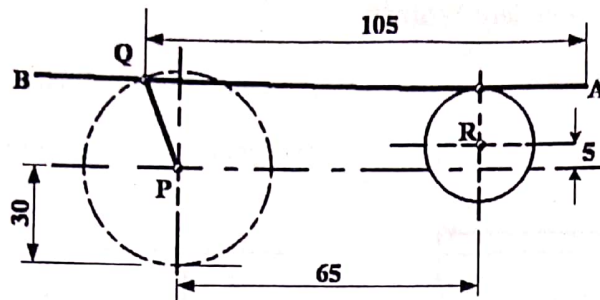

Figure 2
2. In the mechanism shown in Figure 2, crank PQ rotates about P and the rod AB is connected to the crank PQ at Q. The rod AB slides in the same vertical plane on the curved surface of the solid cylinder of diameter 36 mm (with centre R). Trace the locus of the end A and B which is 25 mm beyond QA for one complete revolution of PQ.